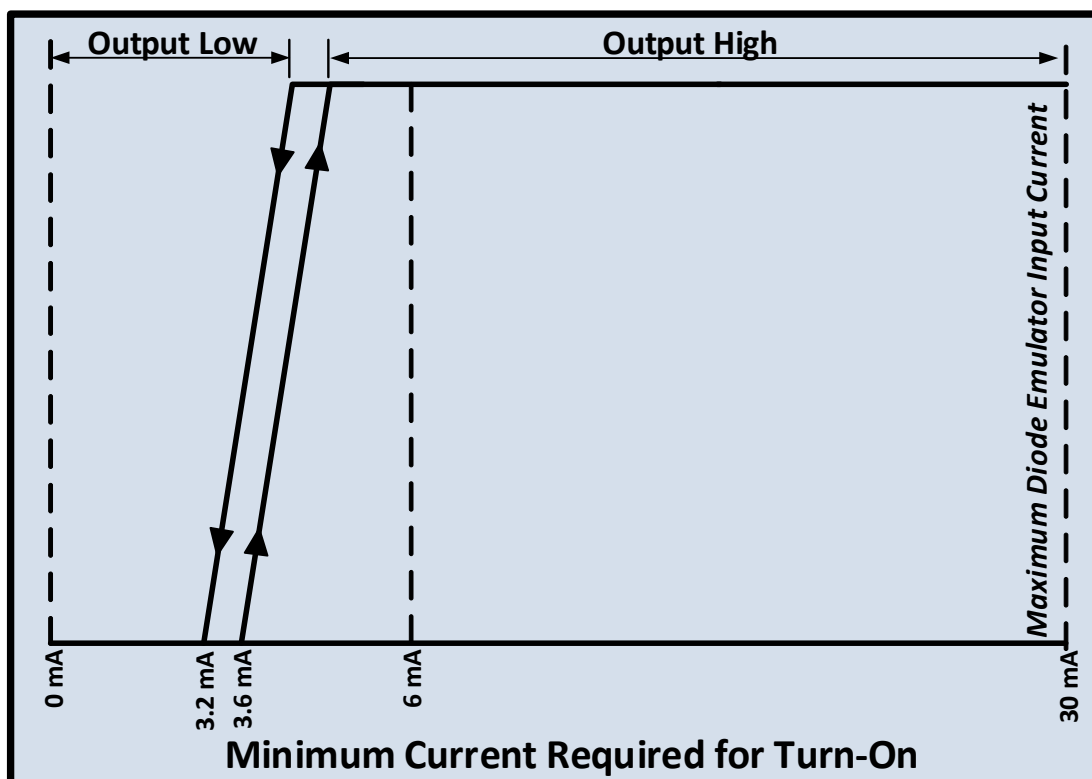

Figure 3. Si826x Device Transfer Characteristics
Figure 3 illustrates the device transfer characteristics where an anode current of 6 mA is required to achieve rated CMTI of 35 kV/ μ s (min) and 50 kV/ μ s (typ). A driver output-high event begins when the anode current crosses the Input Current Threshold, \sim 3.6 mA. A driver output-low event begins when the input current falls below the \sim 3.2 mA threshold and continues falling to zero to achieve rated CMTI performance. Note that Si826x devices must have a voltage drop above the Input Forward Voltage (ON), 1.6 to 2.8 V across the input during those periods when the driver output voltage is high.
- Updated Figure 3 on page 3.